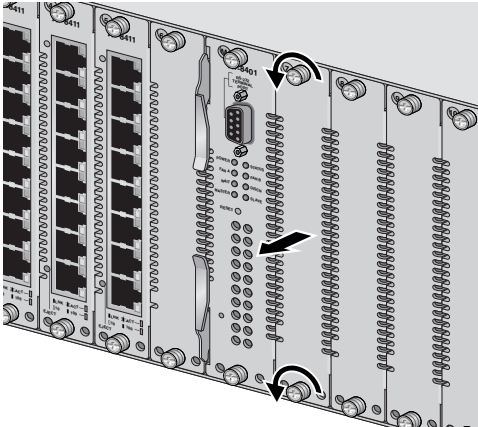

Figure 3. Removing a Blank Faceplate
2. Use a Phillips screwdriver to loosen the two installation screws on the faceplate. See Figure 3 below.